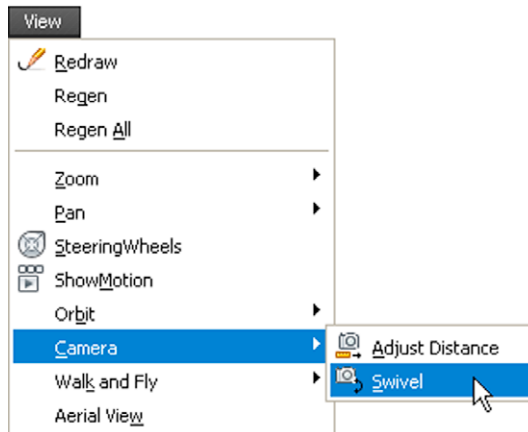

Fig. 15.47 Selecting **Camera/Swivel** from the **View** drop-down menu
- If not satisfied with the scene it can be amended in several ways from the **Camera/Swivel** command (**View** drop-down menu) and its *right-click* menu (Fig. 15.47).